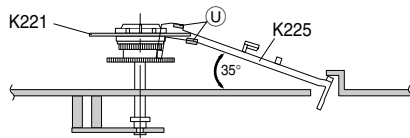

Fig. 16
- The slide disk of the gear drive (K221, Fig. 16) must be located in the guide (U) of the switching claw (K225) when reassembling.